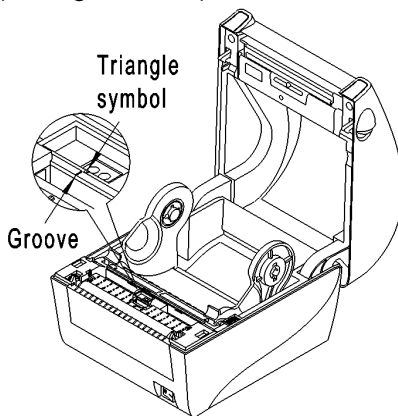

Figure 3.4-2
- 2) Pull or push the sensor base to align the triangle symbol on the sensor base with the groove on the upper path (see figure 3.4-2);